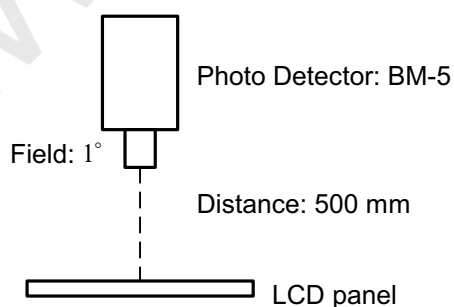

Fig. 6.1
- In the dark room around 100~200 lx, the equipment has been set for the measurements as shown in Fig 6.1.